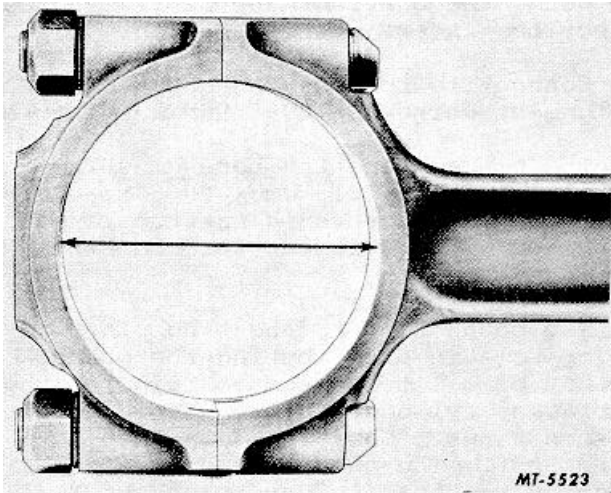

Fig. 85
- (1) Bore Size: To obtain the proper bearing insert crush, the bore must be of a specified size (Fig. 85). See SPECIFICATIONS.